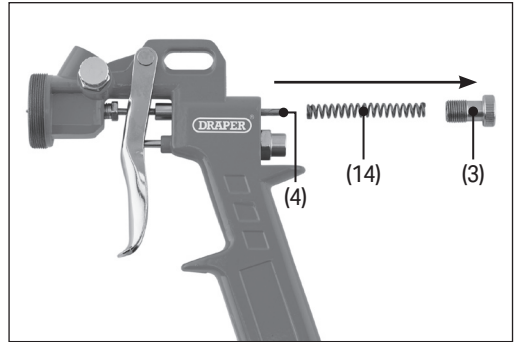

Fig. 4
3. Rotate the fluid control dial (3) anticlockwise until it comes away from the spray gun body (Fig. 4).
4. Remove the spring (14) and fluid needle (4) from the chamber via the back of the spray gun.